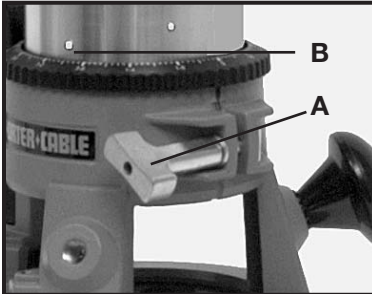
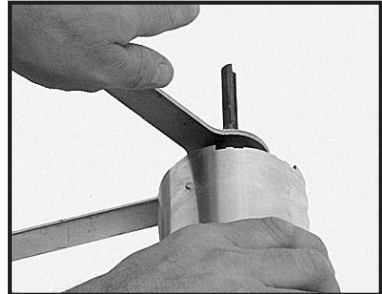

Fig. 18B
Fig. 18C
- (a) Loosen the clamp screw (A) Fig. 18B.
- (b) While holding the base, turn the motor unit **COUNTER-CLOCKWISE** until the lower pin (B) in the motor housing is disengaged from the groove in the base.
- Place one wrench on the flats of the chuck with the opposite end of the the wrench resting on the bench to your left (Fig. 18C).
- Place the other wrench on the collet and tighten COUNTER-CLOCKWISE (Fig. 18C). Tighten firmly.